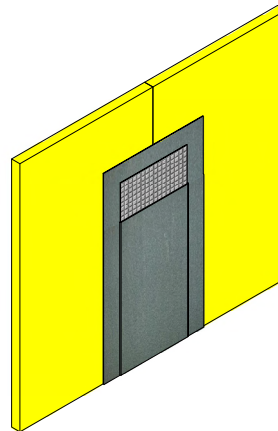

Figure 3
3. Apply additional Senershield-R/-RS/-VB onto the Sheathing Fabric to embed. (See Figure 3)